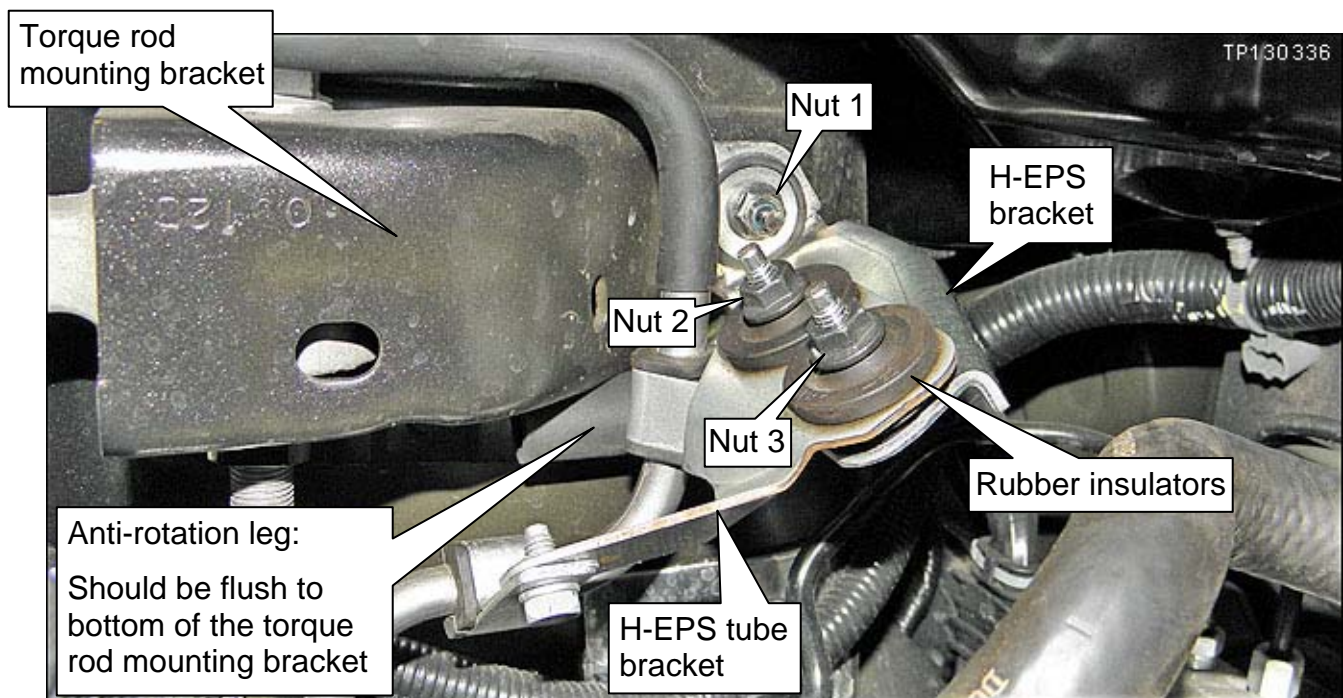

Figure 19
4a. Make sure the H-EPS bracket and the H-EPS tube bracket are not touching (see Figure 19).
5a. Make sure the anti-rotation leg of the H-EPS bracket is flush to the bottom of the torque rod mounting bracket (see Figure 19).
- 4b. Make sure the H-EPS bracket and the H-EPS tube bracket are not touching (see Figure 19).